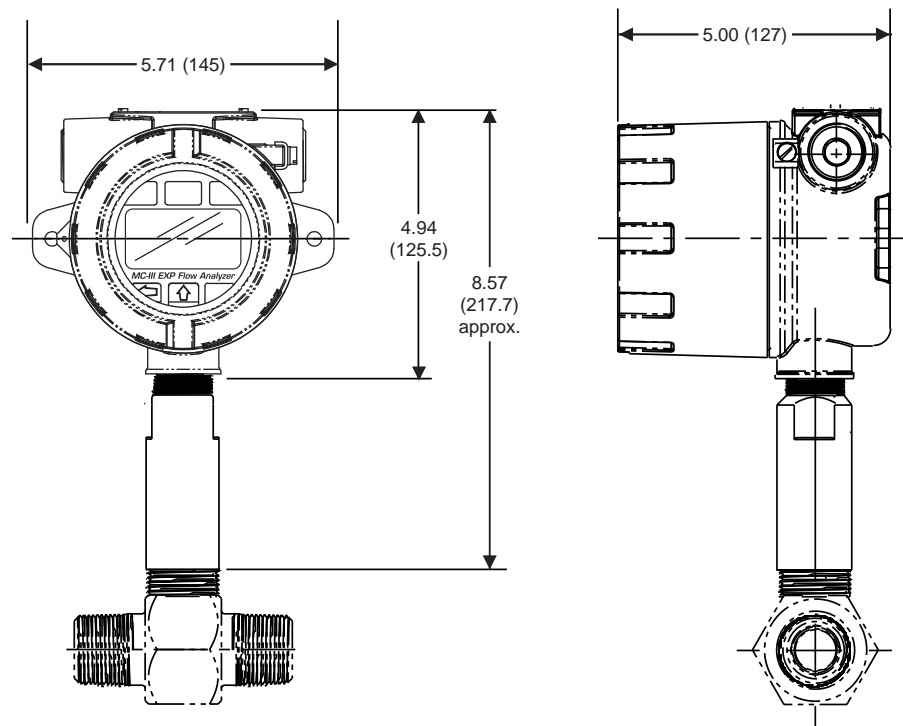

Figure 2.2—Direct mount to NuFlo turbine meter with 3/4-in. to 1-in. standoff tube (ATEX)
The ATEX-approved MC-III EXP may be mounted directly to a flowmeter, or mounted remotely on a pole and connected to a flowmeter with explosionproof signal cable. The type of meter mount required varies with the meter in use. See Figures 2.2 through 2.4 for installation dimensions.
- Mount the device to a NuFlo turbine meter. A 3/4-in. to 1-in. standoff tube is required (*Figure 2.2, page 15*).